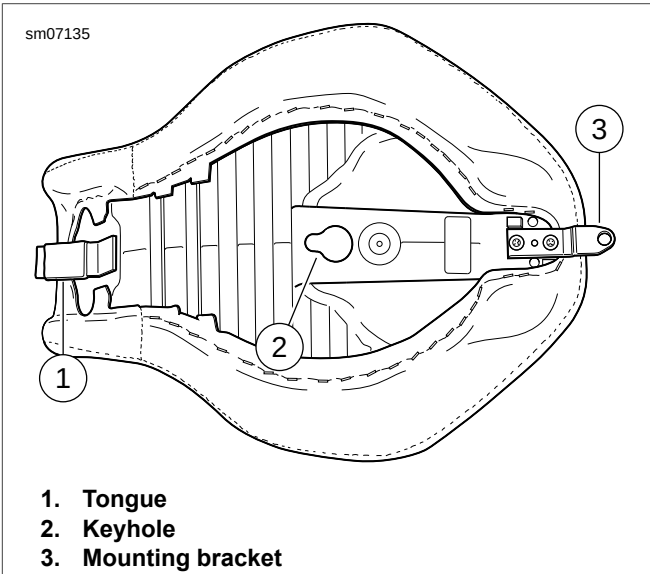

Figure 2-224. Seat: XL Solo
- **Solo Seat:** See Figure 2-224.